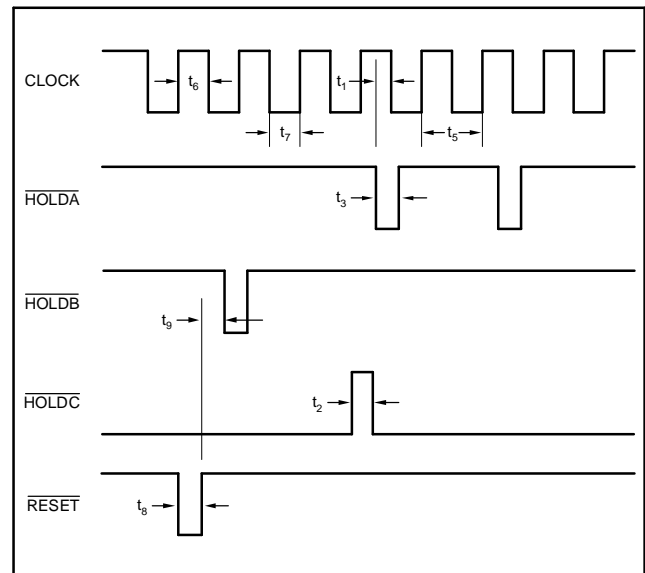

Figure 26. Start of the Conversion
**CLOCK**—An external clock has to be provided for the ADS7864. The maximum clock frequency is 8MHz. The minimum clock cycle is 125ns (see Figure 26,  $t_5$ ), and the clock has to remain high (see Figure 26,  $t_6$ ) or low (see Figure 26,  $t_7$ ) for at least 40ns.
**RESET**—Bringing reset low will reset the ADS7864. It will clear all the output registers, stop any actual conversions and will close the sampling switches. Reset has to stay low for at least 20ns (see Figure 26,  $t_8$ ). The reset should be back high for at least 20ns (see Figure 26,  $t_9$ ), before starting the next conversion (negative hold edge).
other channels are already in the hold mode but not converted, then the conversion of channel X is put in the queue until the previous conversion has been completed. If more than one channel goes into hold mode within one clock cycle, then channel A will be converted first if  $\overline{\text{HOLDA}}$  is one of the triggered hold signals. Next, channel B will be converted, and last, channel C. If it is important to detect a hold command during a certain clock cycle, then the falling edge of the hold signal has to occur at least 10ns before the falling edge of the clock. (see Figure 26,  $t_1$ ). The hold signal can remain low without initiating a new conversion. The hold signal has to be high for at least 15ns (see Figure 26,  $t_2$ ) before it is brought low again and hold has to stay low for at least 20ns (see Figure 26,  $t_3$ ).
In the example of Figure 26, the signal  $\overline{\text{HOLDB}}$  goes low first and channel B0 and B1 will be converted first. The falling edges of  $\overline{\text{HOLDA}}$  and  $\overline{\text{HOLDC}}$  occur within the same clock cycle. Therefore, the channels A0 and A1 will be converted as soon as the channels B0 and B1 are finished (plus acquisition time). When the A-channels are finished, the C-channels will be converted. The second  $\overline{\text{HOLDA}}$  signal is ignored, as the A-channels are not converted at this point in time.